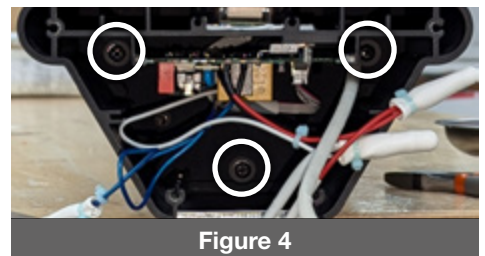

Figure 4
4 Remove the defective electronic box by unscrewing the three (3) screws and set them aside (**Figure 4**).
7 Secure the box by tightening the three (3) screws (**Figure 4**). Make sure the rubber grommet is properly positioned in the central hole of the device and in the hole of the electronic box to ensure a watertight seal.